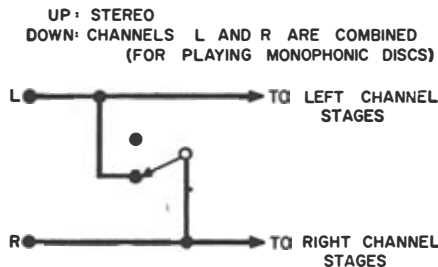

Fig. 11. Switch for combining channels.
3. Monophonic Disc Switching: This combines the left and right signals and feeds the sum signal to both channels, as illustrated in Fig. 11. This is desirable when playing a monophonic disc with a stereo cartridge because the audio (lateral) signals are added in-